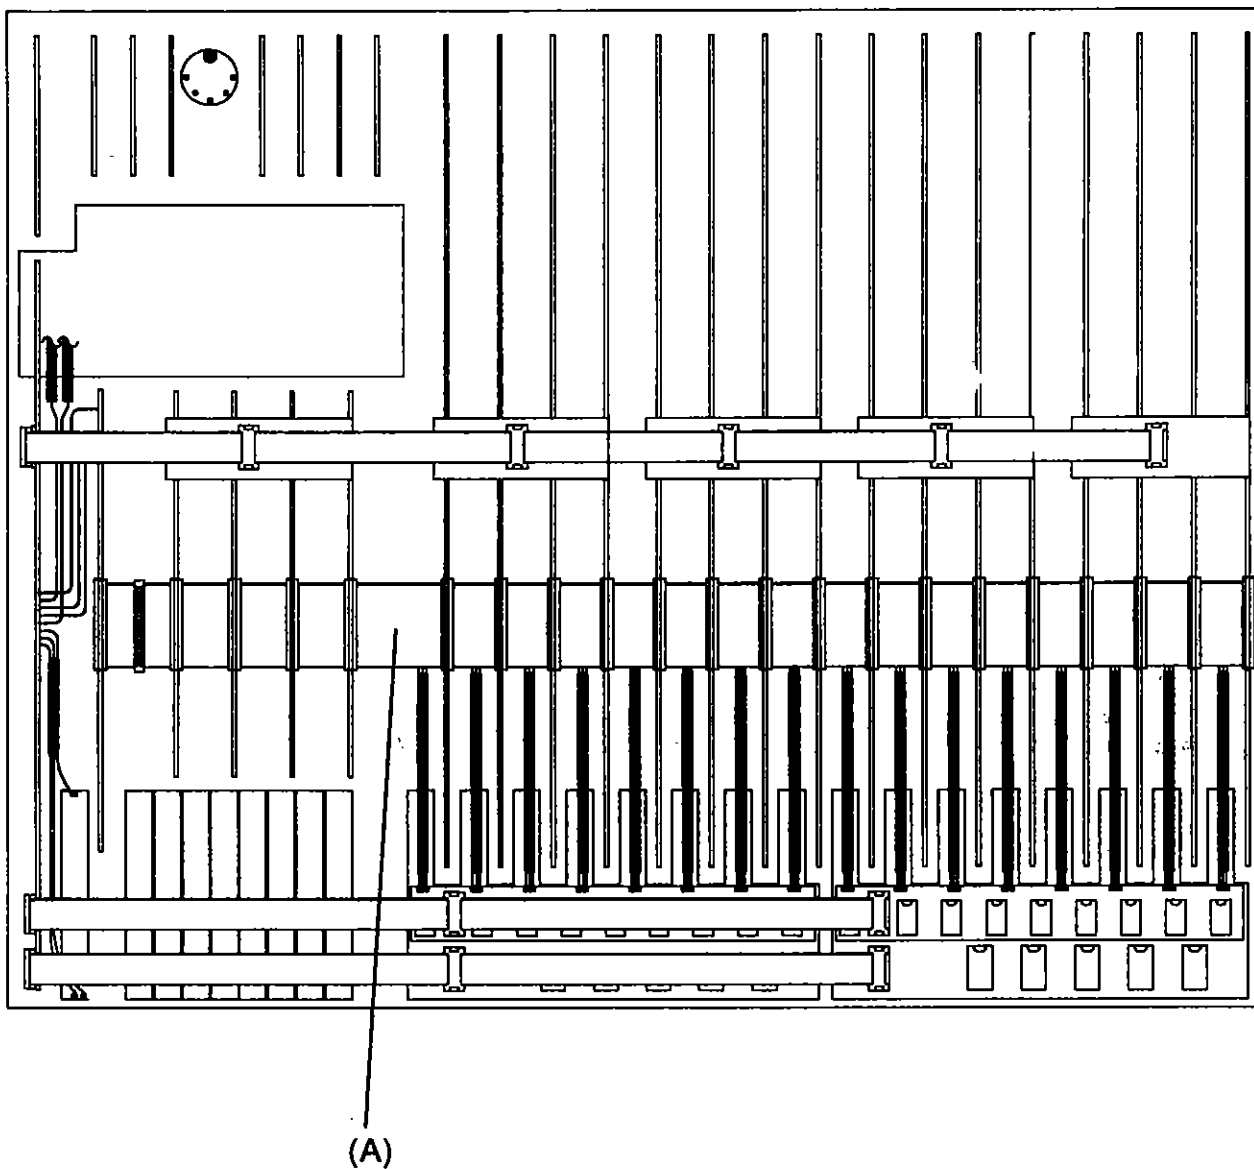

Fig. 20.
5. Re-fit the 40 way main ribbon harness (A) as shown. *see Fig. 20.*